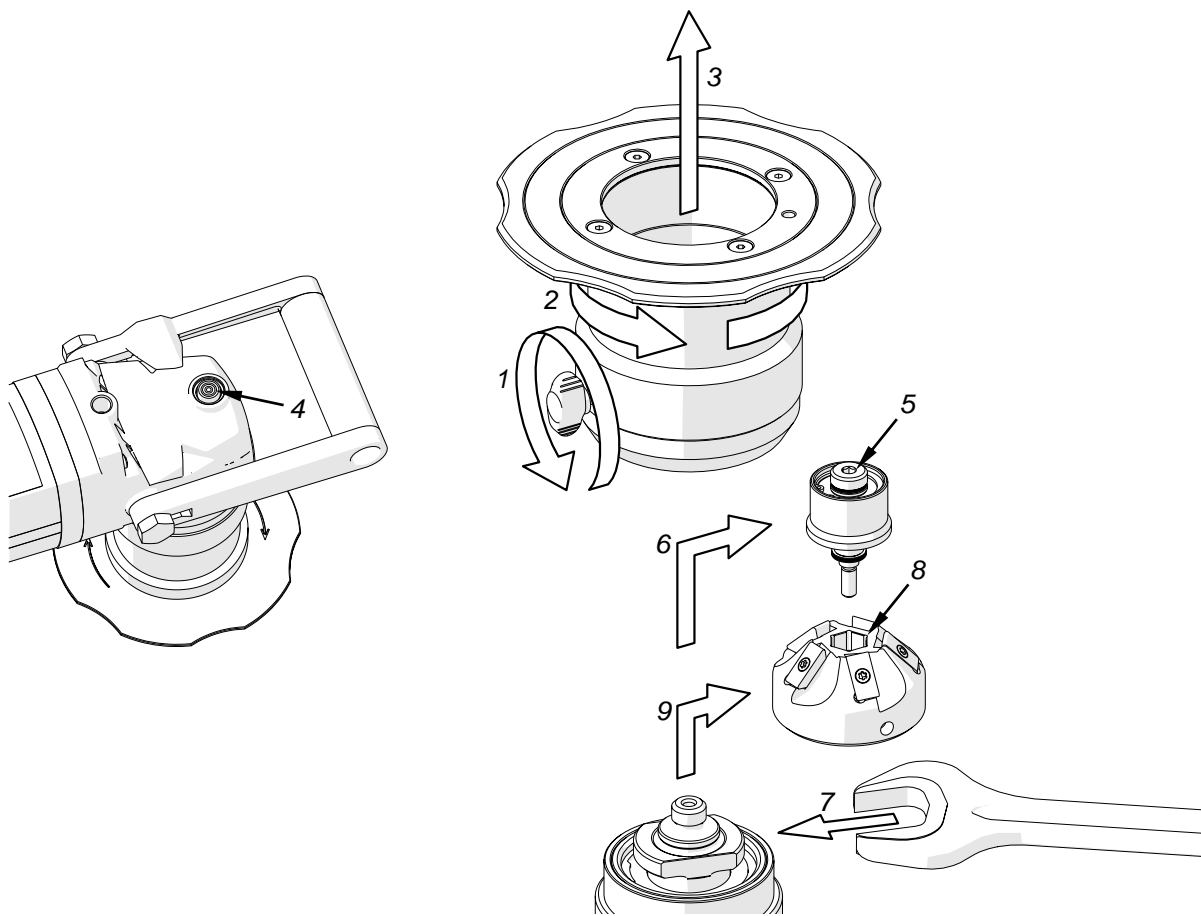

Fig. 4. Removing the milling head
To remove the milling head, loosen the clamping screw (1, Fig. 4), and then unscrew the sleeve (2) and remove it (3). Next, hold the button 4, and then use the 5 mm hex wrench (5) to unscrew the roller, and remove it (6). Lock the spindle with the 32 mm flat wrench (7, do not use the spindle lock button 4 because this may damage the machine), and then use the 14 mm hex wrench to unscrew the head (8), and remove it (9).